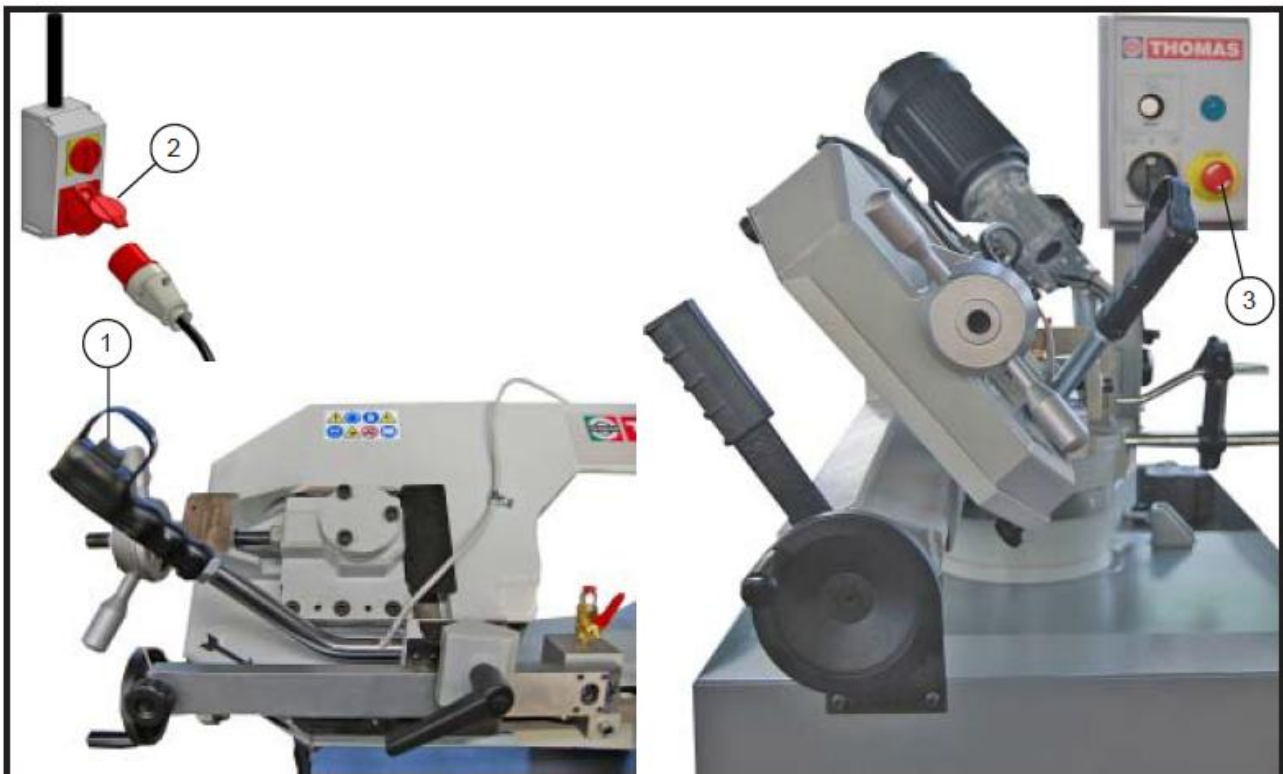

Fig. 1-11
- b) It is forbidden to disconnect or mishandle the push-button controlling the motor (trigger switch - 1 fig. 1-11) controlling blade start.
- b) It is compulsory, before making any intervention on the machine whatever it may be, to switch off the power removing the plug (2 fig. 1-11) from the socket.
- c) It is compulsory, in case of danger or before making any intervention, to stop the machine by pressing the red emergency push-button (3 fig. 1-11).
- d) It is compulsory, at the end of each working shift, to switch off the power removing the plug (2 fig. 1-11) from the socket.